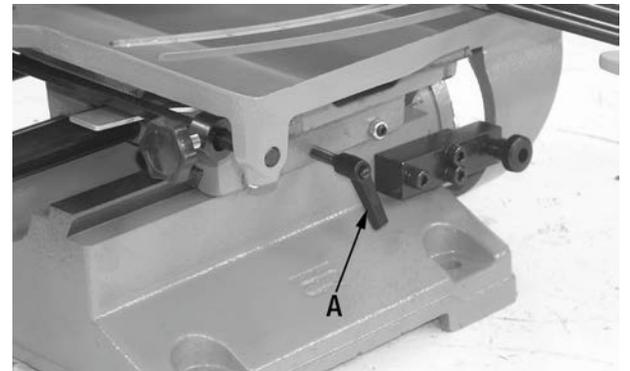

FIGURE 19
The transversal travel of the sliding table (back and forth movement) can be locked to ensure the table position does not move back or forth during operations. Tighten the lock handle (A) Fig.19 to lock the transversal travel of the sliding table.